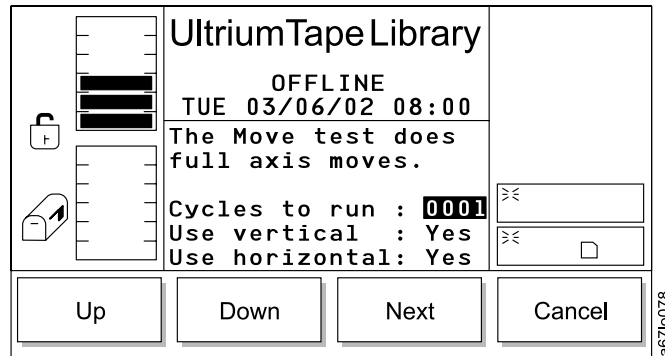

Figure 175. Move Dialog
- If **Move** is selected, the Move Dialog displays (see Figure 175 on page 141).